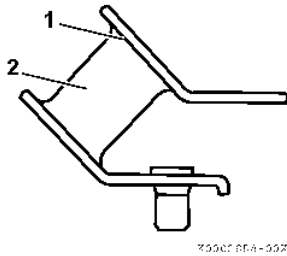

Figure 75
1. Check for separation at rubber baked portion (**Figure 75, (1)**).
2. Check the damper rubber material (**Figure 75, (2)**) for cracks and deformation. Replace the damper if cracked or deformed.